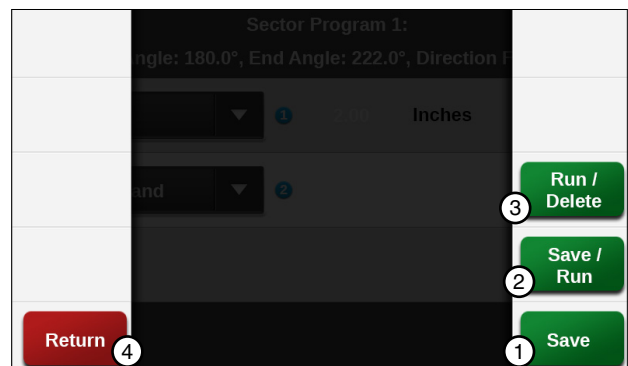

Figure 149-4 1. Save 2. Save/Run 3. Run/Delete 4. Return
12. Finish the program by selecting one of the following. Refer to Figure 149-4.